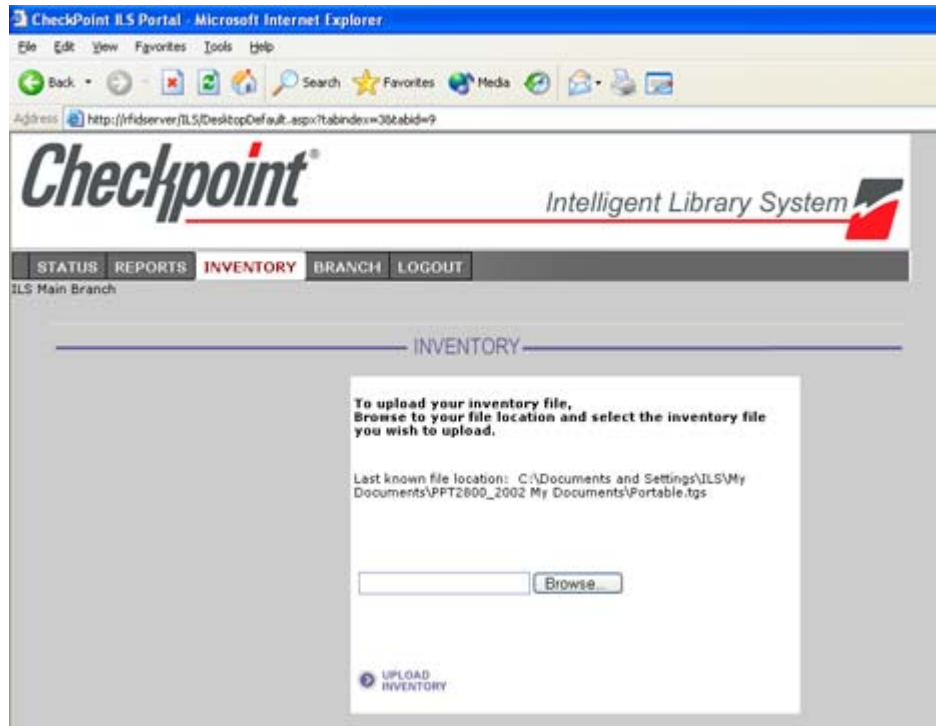

Figure 5.10 Upload Inventory
- 2 Enter the inventory file name, or click **Browse** to navigate to the inventory file (Figure 5.10).